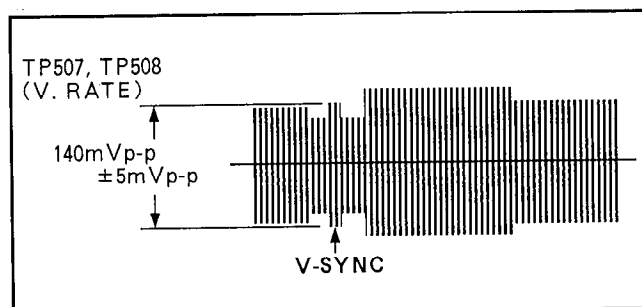

Fig. E5
2. Adjust VR3007 so that the sync level is $140\text{mV} \pm 5\text{mVp-p}$. (Refer to Fig. E5)